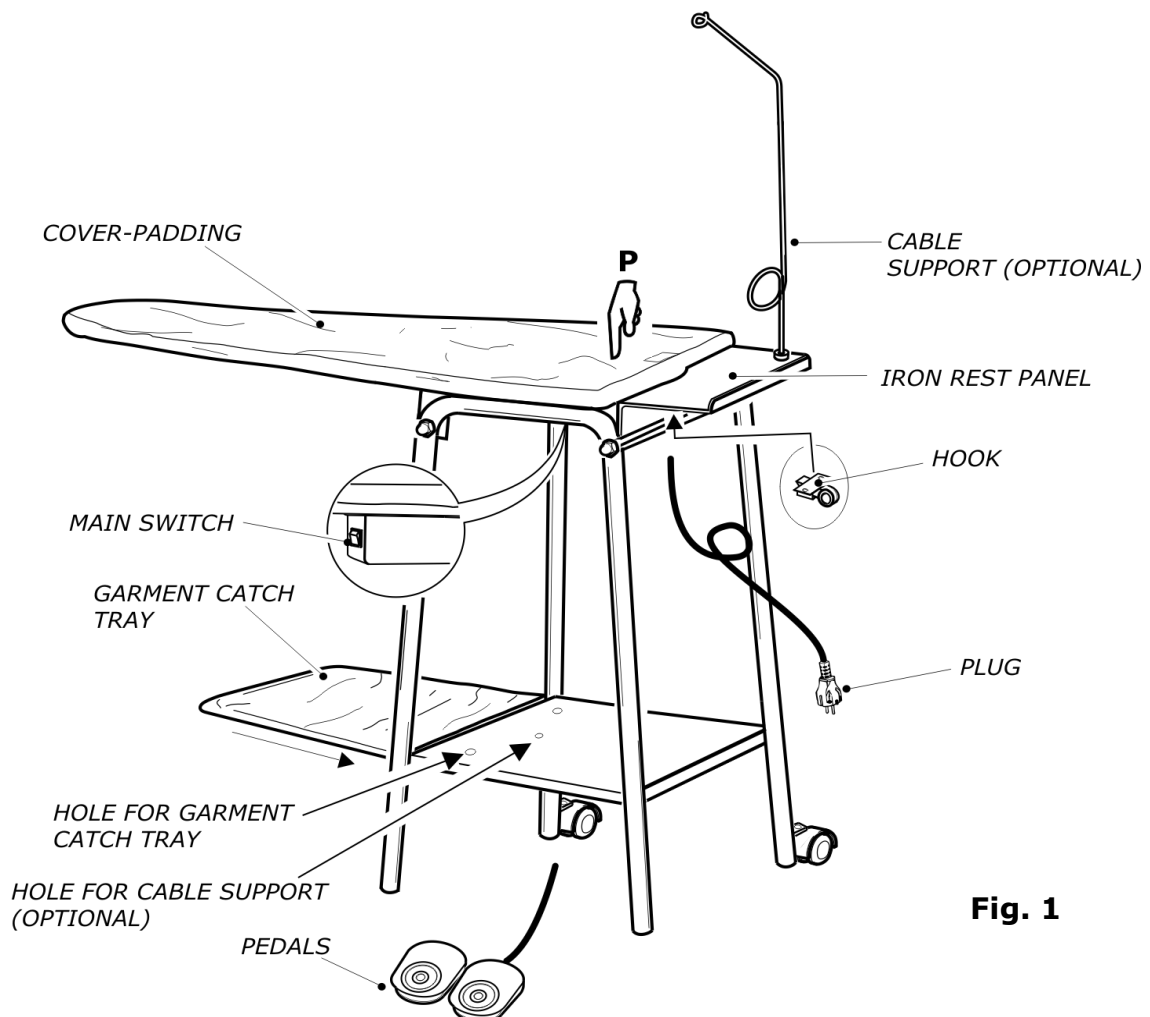

Fig. 1
2. Remove T250P from the box, turn the iron rest panel towards the exterior and insert the cable support deep into the special hole (fig. 1).
3. Position the ironing board horizontally and press on point **P** (fig. 1) until the ironing board hooks onto the "hook".
2. Turn on the green switch under the board (fig. 1).
1. remove the linen support and put it into the special holes (fig. 1);